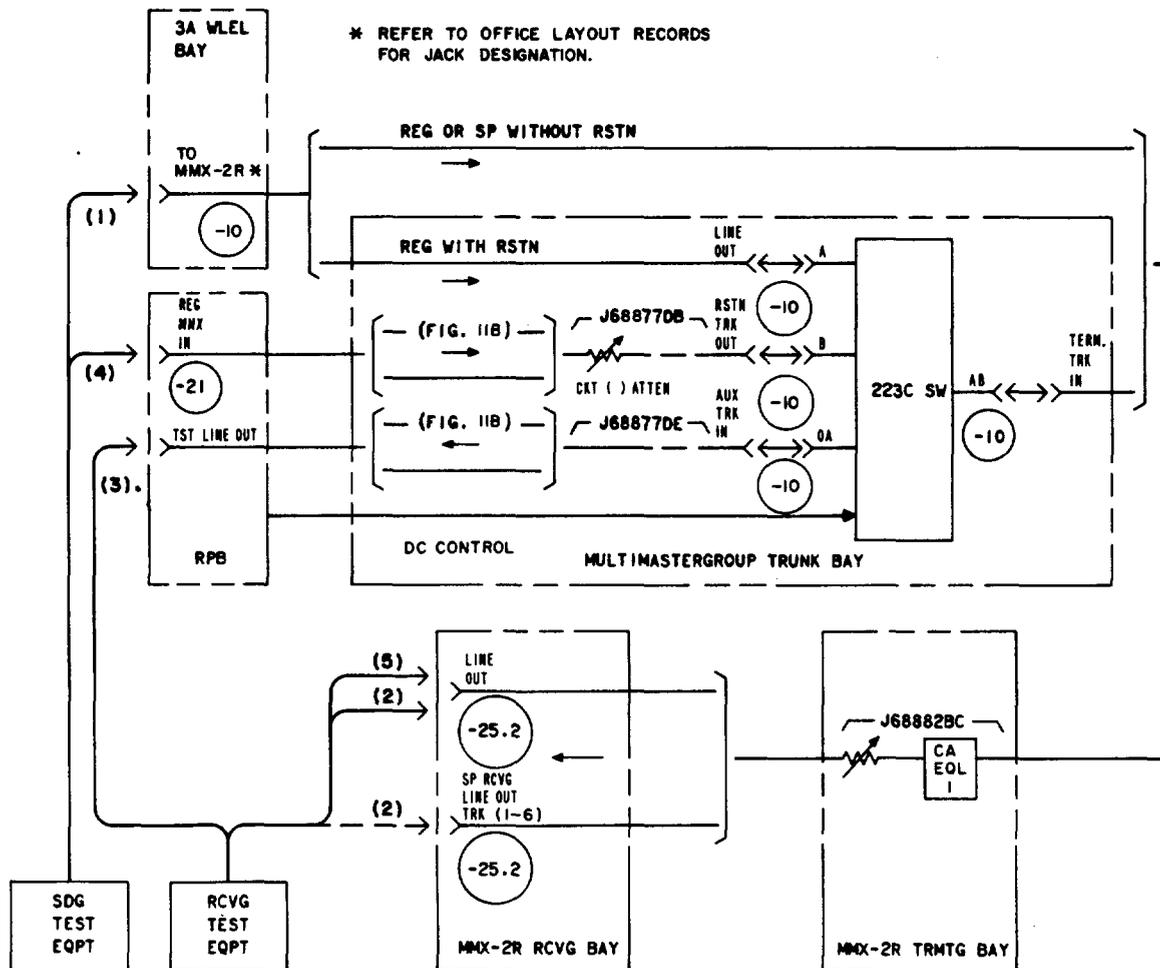

Fig. 2—Receiving Regular or Spare Radio Trunk Without Mastergroup Branching
4	Connect the STE to the appropriate TO MMX-2R jack in the WLEL bay [patch (1), Fig. 2].
- 5 Connect the RTE to the LINE OUT or SP RCVG LINE OUT TRK jack in the MMX-2R receiving bay [patch (2), Fig. 2]
9	Remove patch (2), Fig. 2.
11	<p>Make patch (3), Fig. 2.</p> <p>Note: The operated 223C switch completes a signal path between the A and OA jacks on the switch.</p>
13	<p>Proceed to Step 14 if the requirement is met. Otherwise, continue signal tracing to locate and clear the trouble. Then repeat Steps 10 through 12.</p> <p>Note 1: Two zero-loss trunks (Fig. 9B) may be used in conjunction with this trunk. In this case, the zero-loss trunks should be tested as prescribed in Chart 9B. The zero-loss trunks are indicated in Fig. 2 by the designation Fig. 9B.</p> <p>Note 2: Chart 11 is a procedure for checking the cable equalizers in the J68877DB, J68877DE, and J68882BC panels.</p>
15	Remove patches (1) and (3), Fig. 2.
17	Connect the STE to the REG MMX IN jack in the restoration patch bay [patch (4), (Fig. 2)]. Note: The 223C switch operates and the RSTN SW OPR lamp lights.
18	Connect the RTE to the LINE OUT jack in the MMX-2R receiving bay [patch (5), Fig. 2]. Note: The operated 223C switch completes a signal path between the B and AB jacks on the switch.